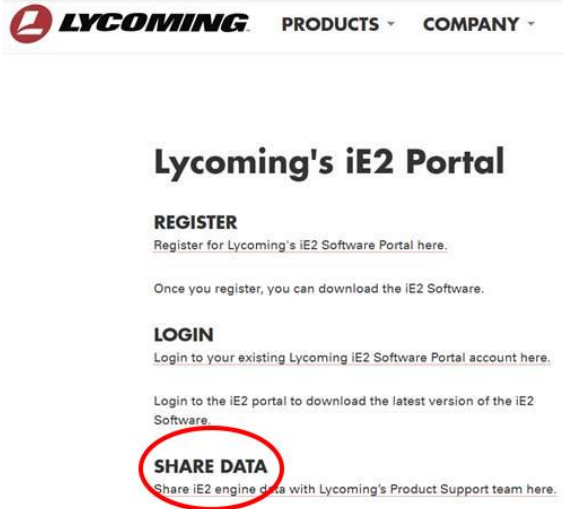

Figure 1
3. Disconnect the USB plug of the ST-530/ST-541 adapter (Figure 1 in the ECU TO FST CONNECTION chapter of this manual) from the USB port on the laptop.
2. Open Lycoming’s iE2 Portal (Figure 1) and click on **SHARE DATA**.